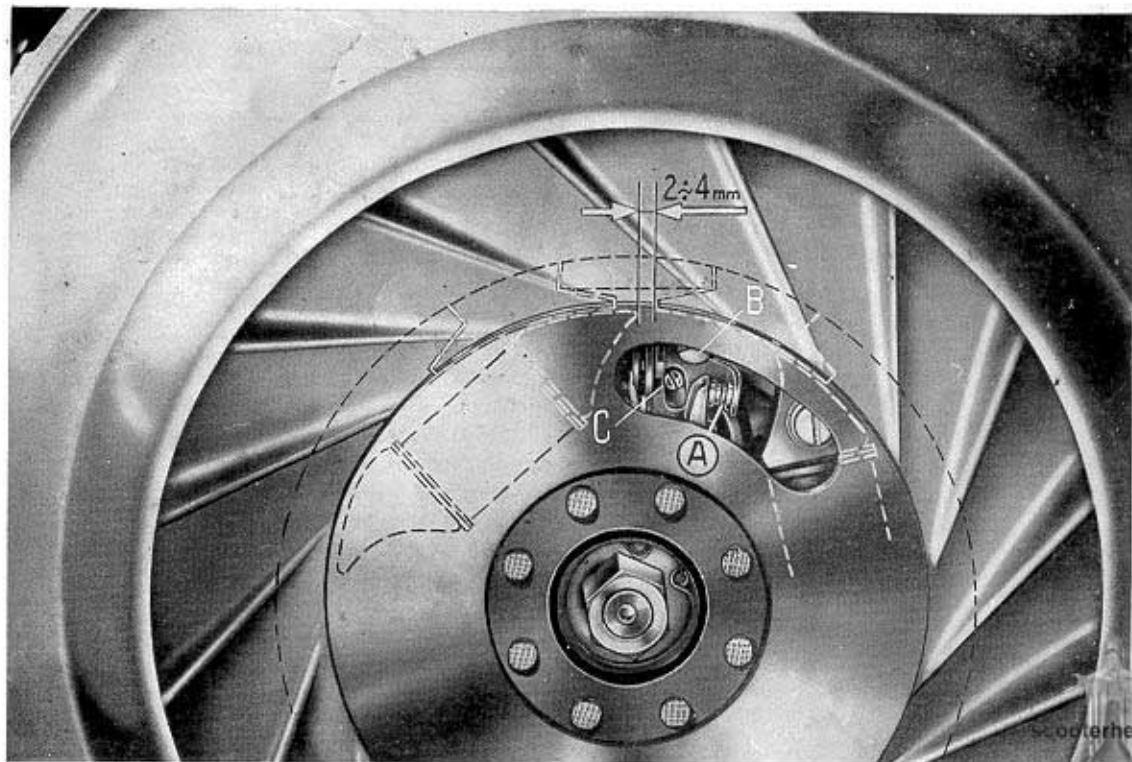

Fig. 15 - Operations for checking the «magnetic» timing of the flywheel
3) - Clean, and if necessary, reset the contact breaker points (fig. 15). To avoid faulty ignition or other defects, **consult your Service - Station for this operation.**